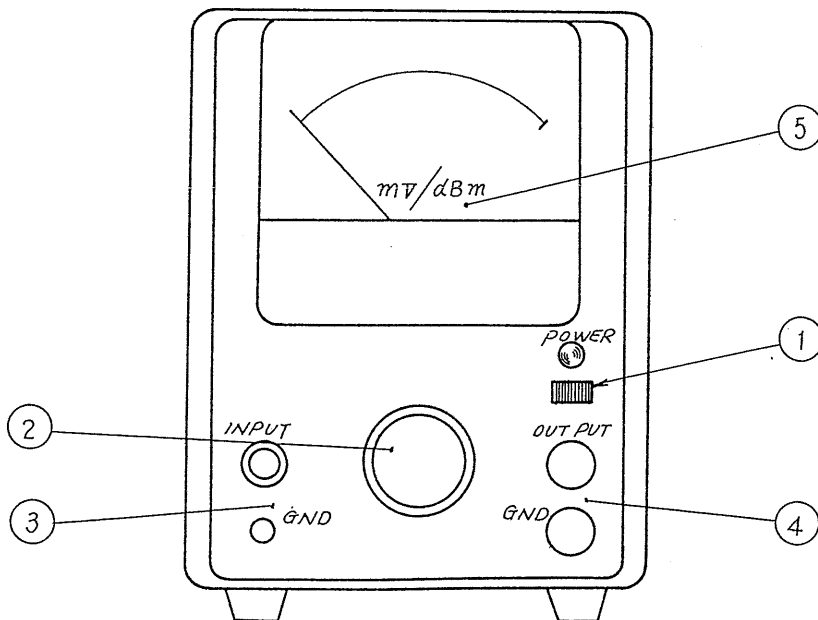

Fig. 3-2
3.1 Parts on front panel (See Fig. 3-2)
- ① POWER A push button switch turning on and off power supply, and the power is supplied in the state that the button is pushed and stands back, and when the button is pushed again, the power is turned off.
- ② Range Black dial in the center of the panel.
- ③ INPUT terminals Terminals to which the voltage to be measured will be connected. They consist of a UHF receptacle and a GND (ground) terminal.